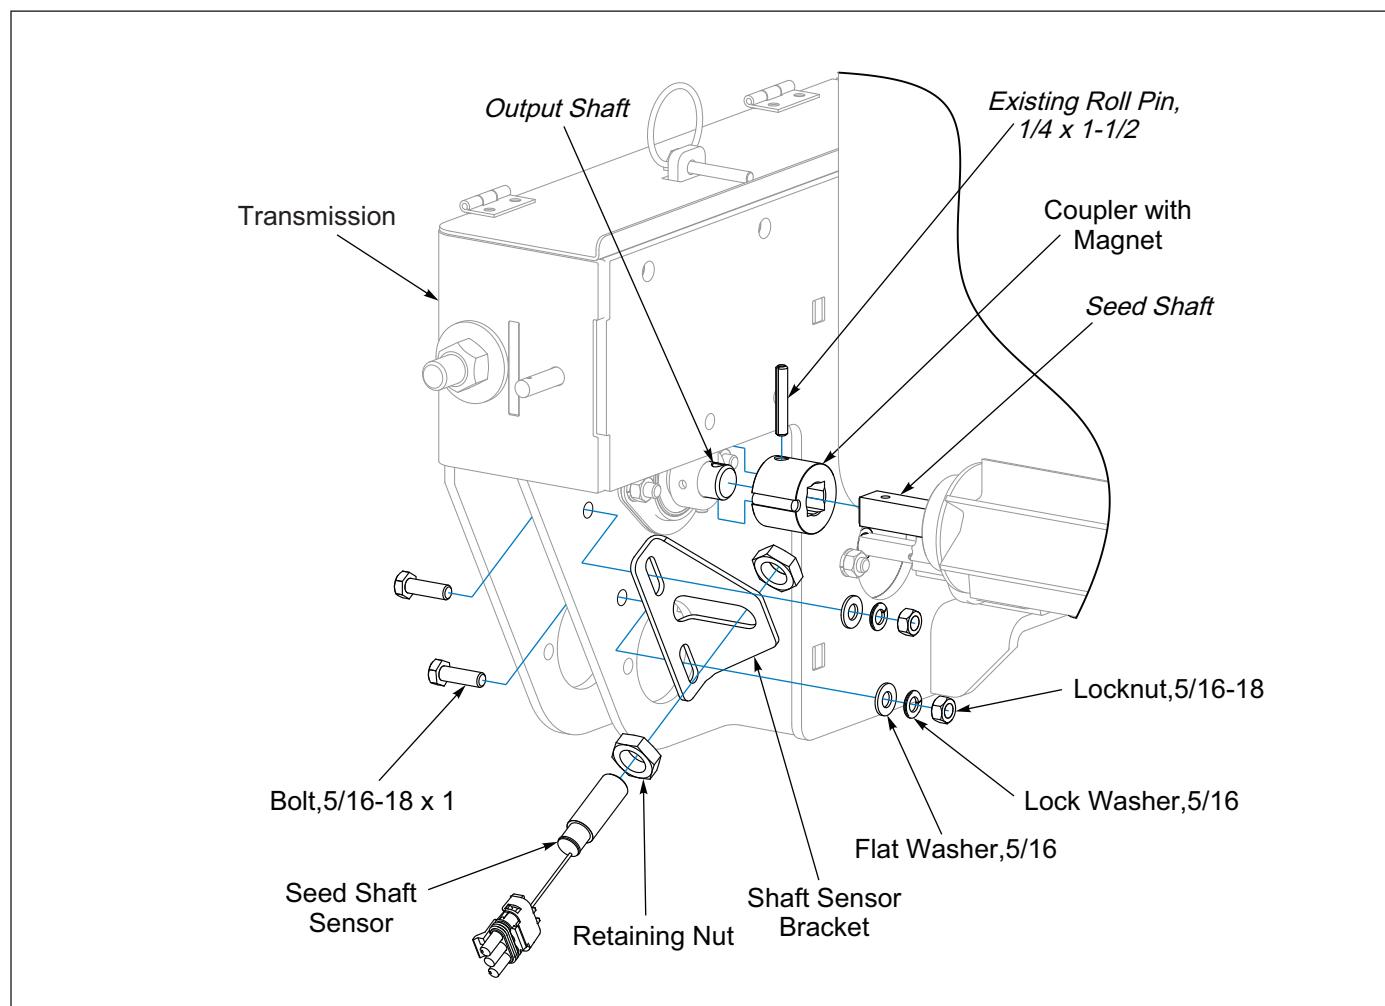

Figure 2-38: Console w/Clutch Control LH Rear Seed Box Seed Shaft Sensor
1. At the Transmission/left side of Seeder remove 1/4 x 1-1/2 Roll Pin from Seed Shaft Coupler. **See Figure 2-38.**